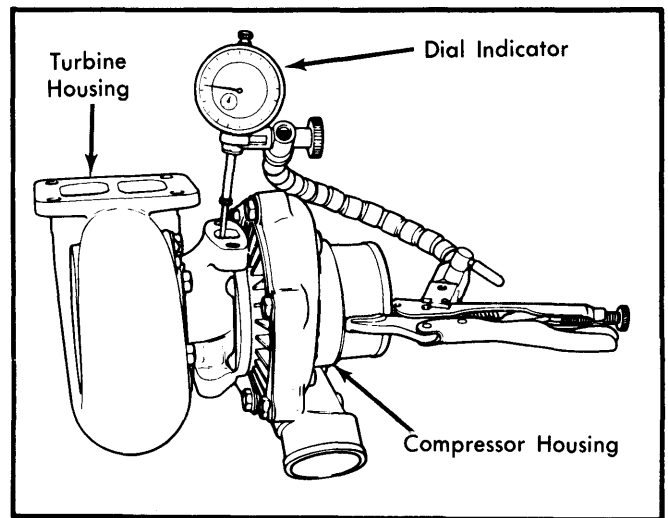

Fig. 2 Checking Shaft Radial Clearance
1) Remove turbocharger from engine. Attach a suitable dial indicator to center housing so indicator plunger extends through oil outlet port and contacts shaft of turbine wheel assembly. See Fig. 2.